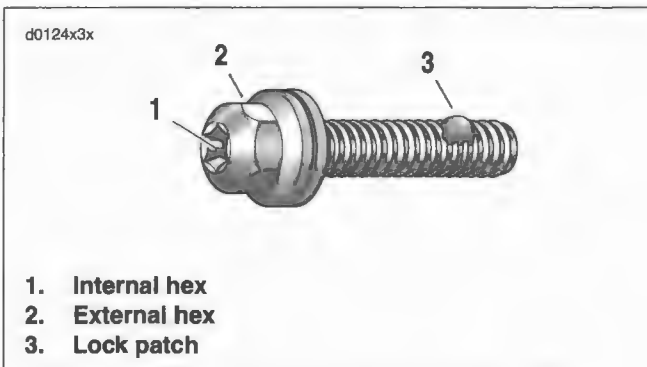

Figure 3-16. Rocker Cover Bolt (Rocker Housing Bolt Similar)
- See Figure 3-16. If the engine is left in the chassis for service, use the **ROCKER COVER WRENCH (HD-47258)** and **ROCKER HOUSING WRENCH (HD-47248)** to remove the rocker cover and rocker housing bolts, respectively. These tools are especially useful when removing the bolts on the left side of the engine (particularly the rear) where there is close proximity to the frame. With both an external and internal hex, the bolts also can be removed with either a 7/16 inch socket or open end/box wrench (open spaces), or a short 3/16 inch allen wrench (tight spaces).